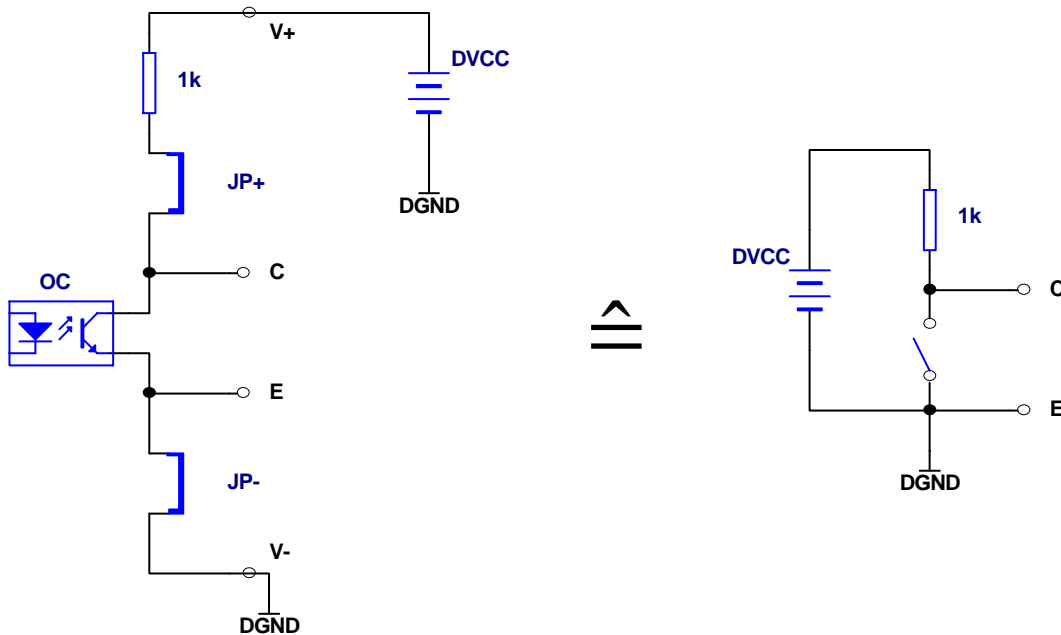

Fig. 5: Both jumpers installed, Terminal V- grounded, Terminal V+ powered
Installation of both jumpers, grounding of Terminal V- and connection of a voltage source to Terminal V+ as shown in Fig. 5 establishes a true voltage output at Terminals C and E which can drive floating inputs.
3.2.4 Both Jumpers Installed (see Fig. 5)
| | Fig. 5, Section 3.2.4 |